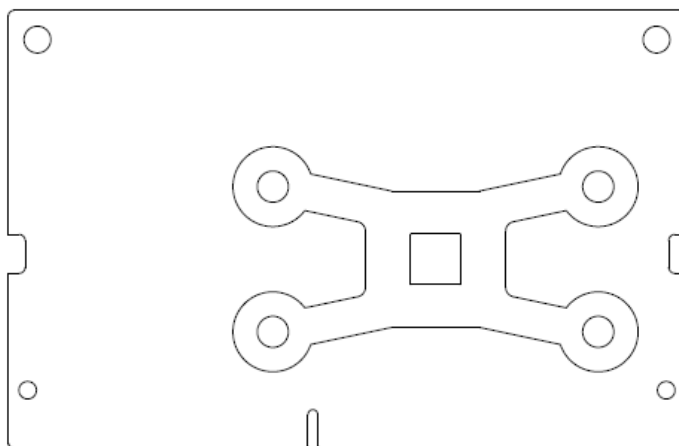

Figure 3-5. Module Board PCB Back Support Keepout Area
- ▶ Figure 3-5 illustrates where module provides room for backplate should the design require a backplate to assist in stiffening the board and for mounting/locking features. The outline shows the keep-out area for the back plate on backside of the module.